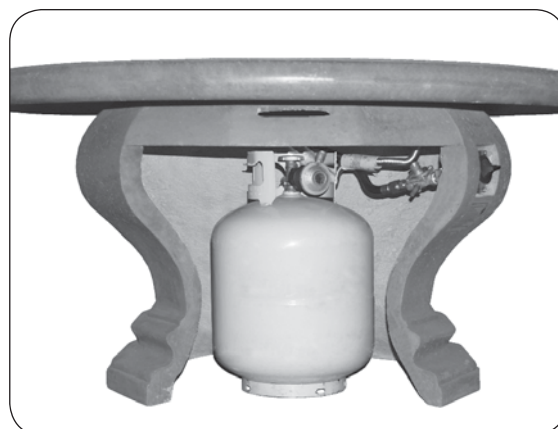

Fig. 19-2 L.P. Cylinder placement
3. The propane cylinder (not included) is to be located inside the base of the unit, via the storage door opening (see Fig. 19-2).